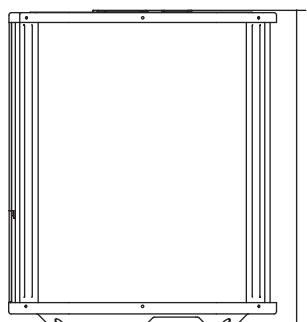

Fig.6-5
- The minimum distance between the outdoor unit and obstacles described in the installation chart does not mean that the same is applicable to the situation of an airtight room. Leave open two of the three directions (M,N,P) (Refer to Fig.6-5)